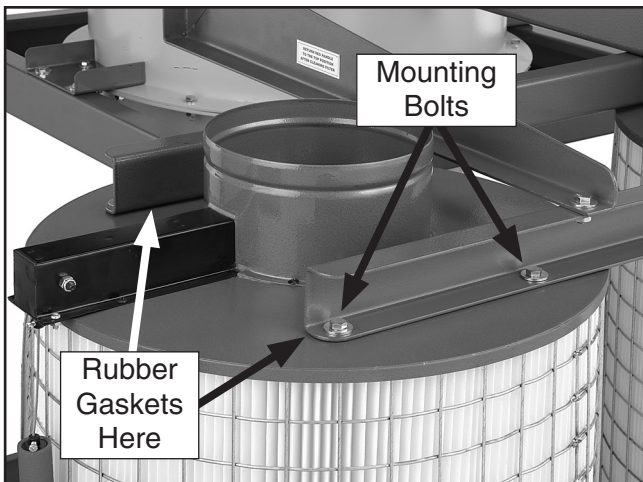

Figure 28. Canister filters mounted to the long support braces.
6. With assistance, position the rubber mounting gaskets between the filter canisters and the long brace supports, and secure the canisters with (8) $\frac{5}{16}$ "-18 x $\frac{3}{4}$ " hex bolts and (8) $\frac{5}{16}$ " fender washers (see **Figure 28**).